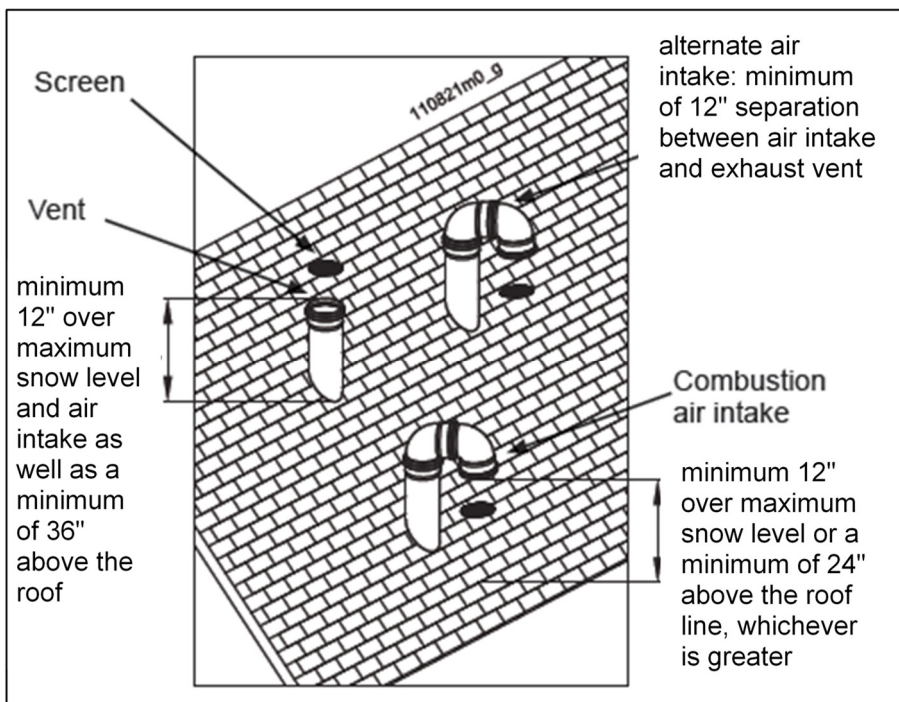

Figure 9.21
2. Prepare the vent termination and the air intake termination elbow (see Figure 9.21) by inserting bird screens.
4. The air intake piping must terminate in a down-turned 180° direction utilizing two elbows, see Figure 9.21.
6. Maintain the required dimensions of the finished termination piping as shown in Figure 9.21.